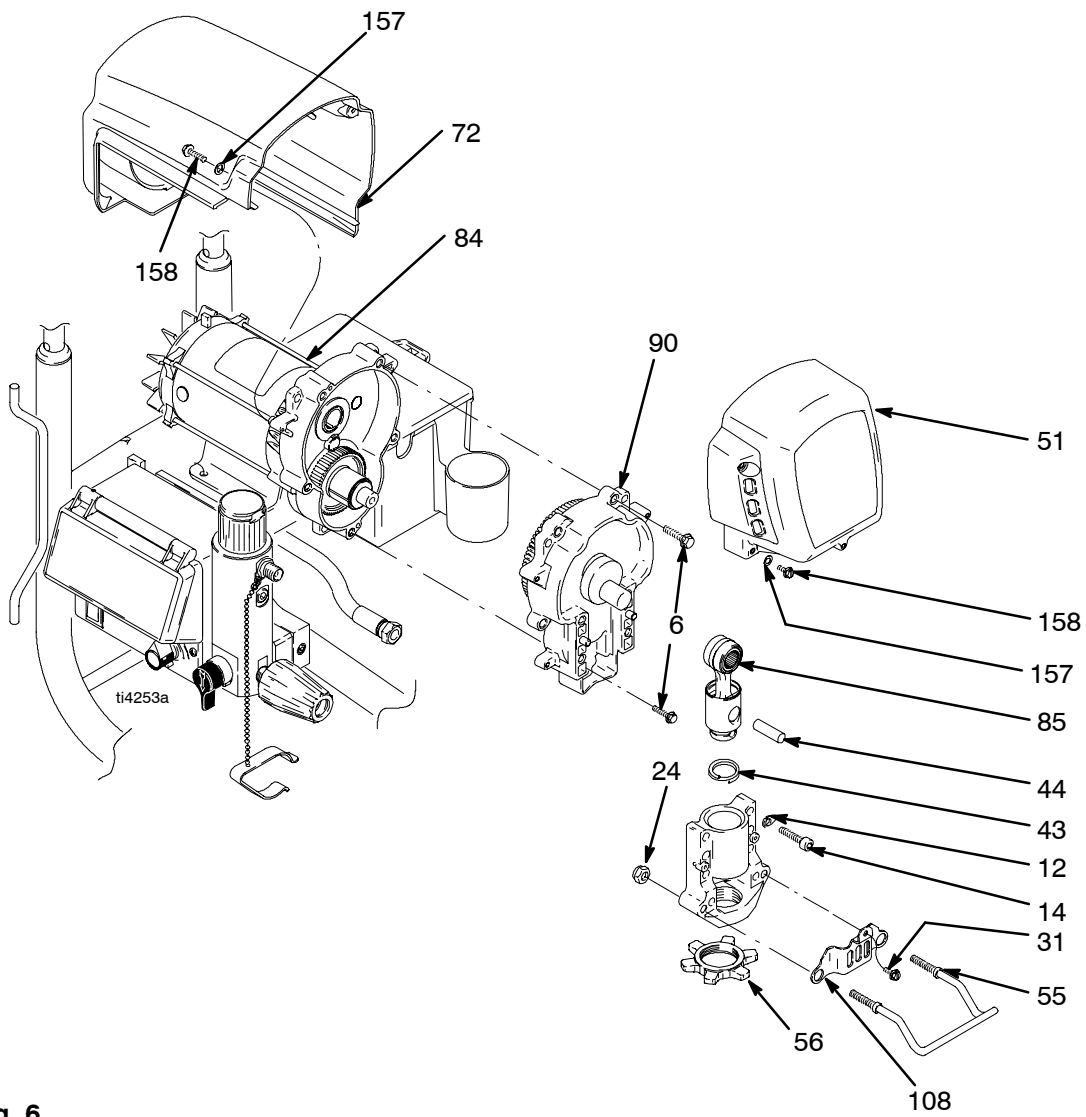

Fig. 6
2. Remove screw (31), two nuts (24), pail hanger (55) and pump rod cover (108).
3. Remove pump (91); **Displacement Pump Replacement**, page 20.
4. Fig. 6. Remove two screws (158) and shroud (72).
5. Remove four screws (158) and front cover (51).
6. Remove four screws (14) and washers (12) to remove bearing housing (83) and connecting rod (85).
7. Remove five screws (6) and pull drive housing (90) off motor (84).
1. Fig. 6. Push drive housing (90) onto motor (84) and install with five screws (6). Torque to 190–210 in-lb (21–23 N·m).
2. Install bearing housing (83) with four screws (14) and washers (12). Torque to 25–30 ft-lb (34–40 N·m).
3. Install front cover (51) with four screws (31).
4. Install shroud (72) with two screws (31).
5. Install pump (41); **Displacement Pump Replacement**, page 20.
6. Install pump rod cover (108) and pail hanger (55) with screw (31) and two nuts (24).